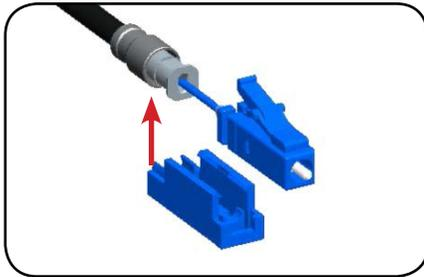
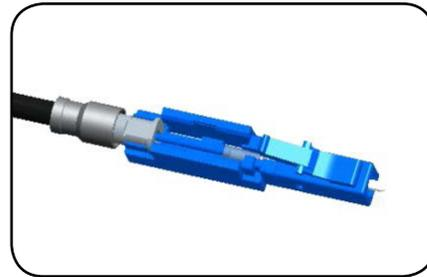

Figure 3
Figure 4
**Step 3:** Insert the cable crimp into the back of the lower body (**Figure 3**). Snap the connector into the front half of the lower body (**Figure 4**).